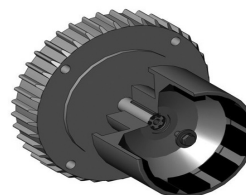

Figure 4
**Metric Motors:** Secure the drive to the motor shaft using bolt, lock washer and flat washer (items 21, 22, 23). Thread the bolt into the end of the motor shaft (while holding the outer drive to prevent it from turning). See figure 4.